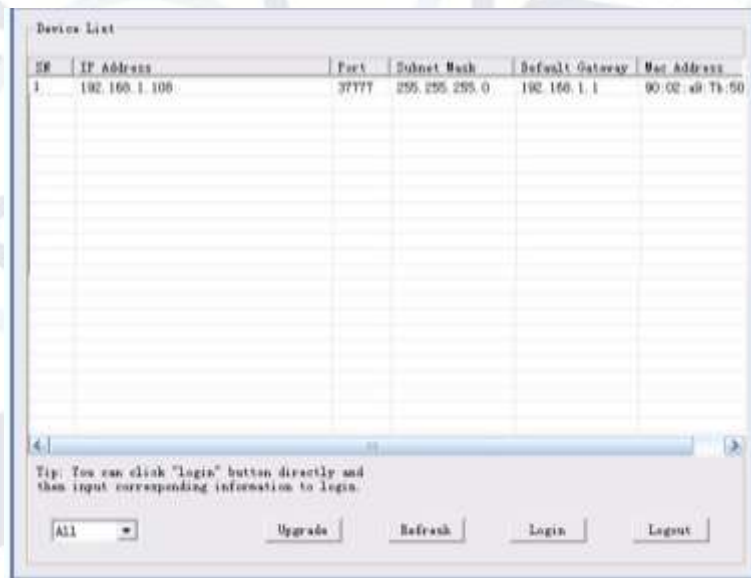

Figure 5-1
Double click the "ConfigTools.exe" icon; you can see an interface is shown as in Figure 5-1.
- In the configuration tool search interface (Figure 5-1), please select a device IP address and then double click it to open the login interface. Or you can select an IP address and then click the Login button to go to the login interface (see Figure 5-4).